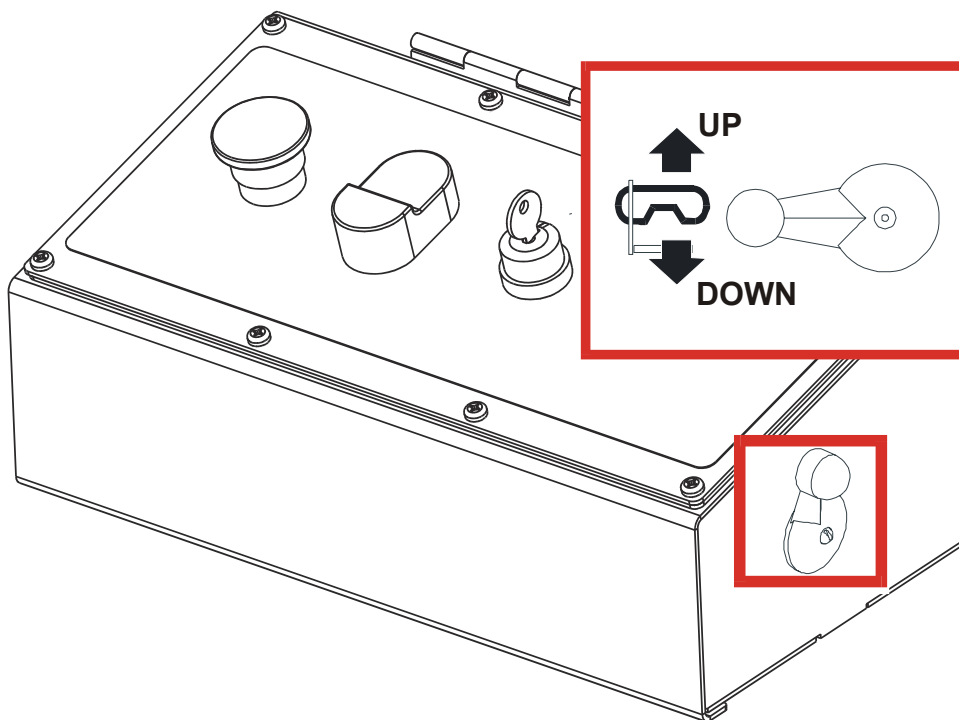

FIG. 2-10
**See Figure 2-10.** The up/down switch is located on the right side of the control panel. Push the switch up to raise the cutting head; push the switch down to lower the cutting head. Hold the switch in position until the cutting head reaches the desired height, then release..